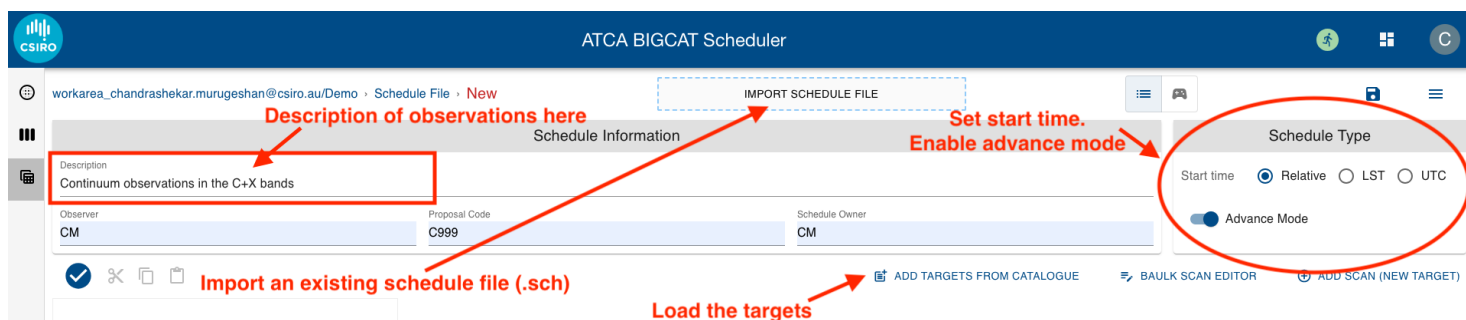

Figure 10: Creating a new schedule file.
- Once the correlator configurations have been set-up, you are now ready to make the schedule file for your observations. Click on the schedule file button on the left and select “New Schedule File” and give it an appropriate name. Fig. 10 below shows how the scheduler page layout looks like.